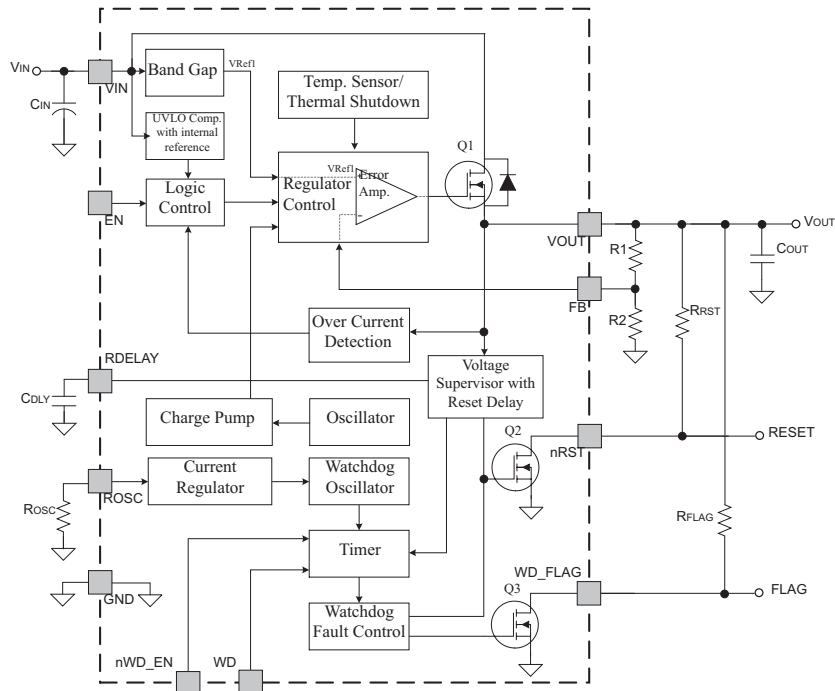

Figure 5. TPS7A6401-Q1 (Adjustable Output Voltage With FLAG Output)
- R1, R2 = feedback resistors (see Figure 5)